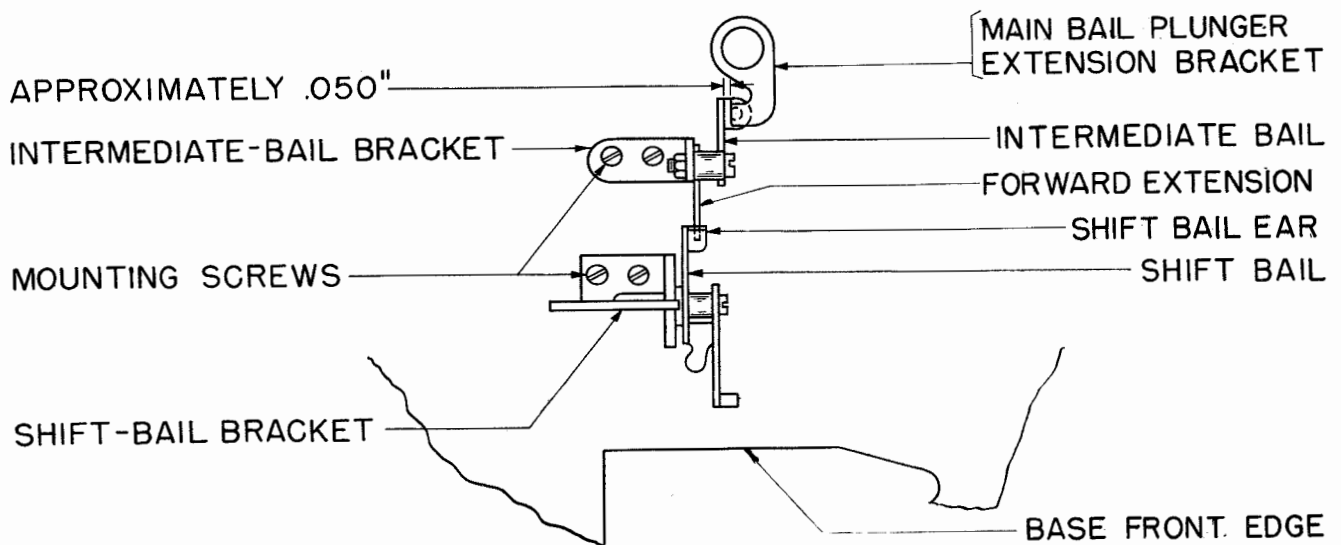

Figure 33
2.47 Shift-bail Bracket: The front surface shall be parallel to the front edge of the recessed portion of the base. See Figure 33.
2.48 Intermediate-bail Alignment: The forward extension of the intermediate bail shall engage the center of the ear on the shift bail. See Figure 33.
2.49 Mainbail-plunger Extension-bracket: The left edge of the operating surface on the mainbail-plunger extension shall clear the side of the intermediate bail as indicated in Figure 33.